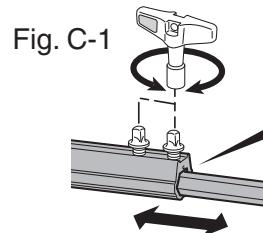

Fig. C-1
3. Loosen the Key Bolts on the Center Connecting Tube of the Drive Shaft. Adjust the distance between the Primary pedal and the Secondary pedal to your liking. Re-tighten the Key Bolts. (Fig. C-1)